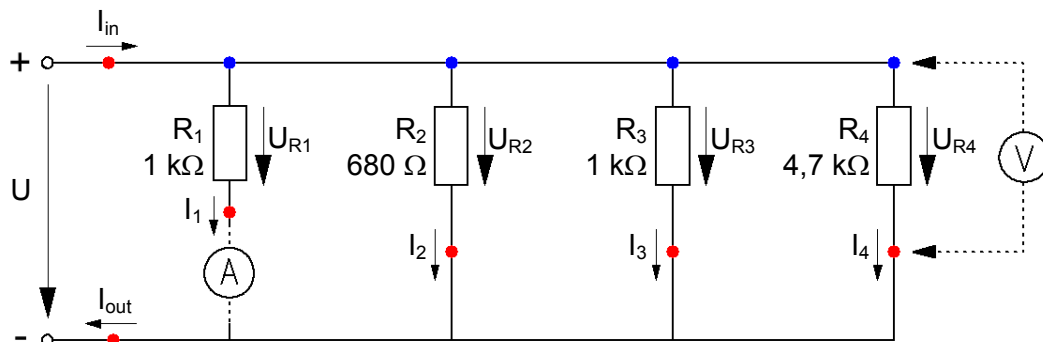

Fig. 3.8.2.1: Measurements on the parallel circuit
- Assemble the exercise circuit on the Board (Fig. 3.8.2.1).